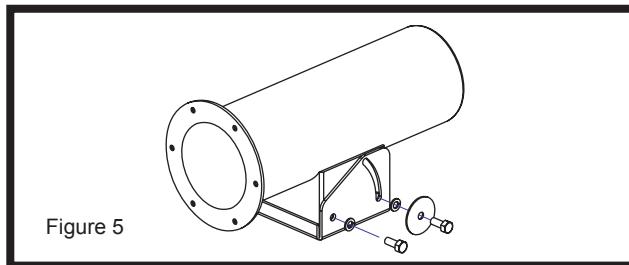

Figure 5
7. Remove the tilt bracket from the housing by removing the (4) hex head bolts that hold the mounting base to the housing (Figure 5).